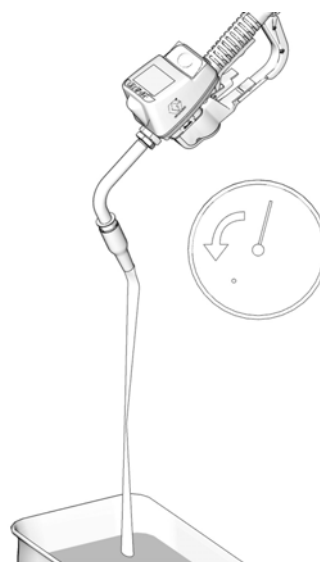

FIG. 2
2. Open dispensing valve into a waste container until pressure is relieved (FIG. 2).